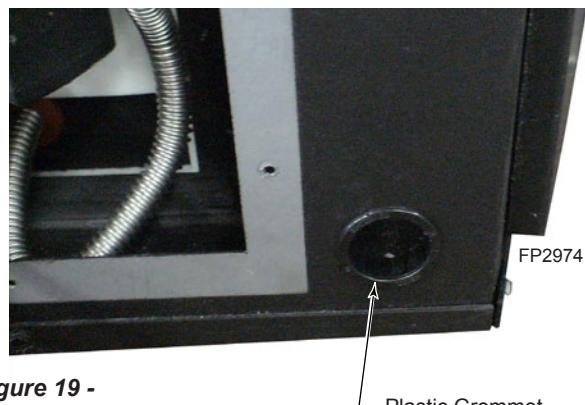

Figure 19 -
- To connect the three-pronged electric cord, remove the plastic grommet from lower right side corner of insert. Insert plug end of electric cord through hole in insert and through plastic grommet. Slide grommet down electrical cord and reinstall. *Figure 19*